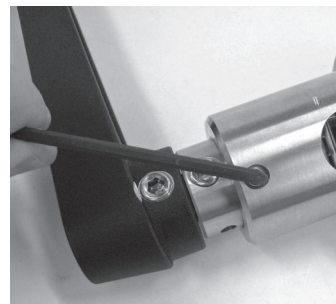

Fig. 3 Loosening the 1/4 in. set screw (second screw is on opposite side of housing)
1. Loosen the two 1/4 in. set screws using the 1/8 in. hex key. (Fig. 3)